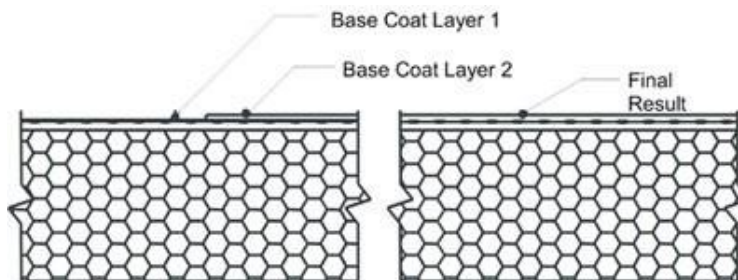

Fig. 22
- 3) Allow the Dryvit Base Coat mixture to take up until firm to the touch. Trowel a second tight coat of the Dryvit Base Coat mixture over the first coat to fully cover the Dryvit Reinforcing Mesh - Figure 22. The result should be such that the Dryvit Reinforcing Mesh is approximately centered within the Dryvit Base Coat thickness. Do not allow the first pass to completely dry prior to the second pass application or an excessive amount of the Dryvit Base Coat mixture will be necessary to fully coat the wall surface.